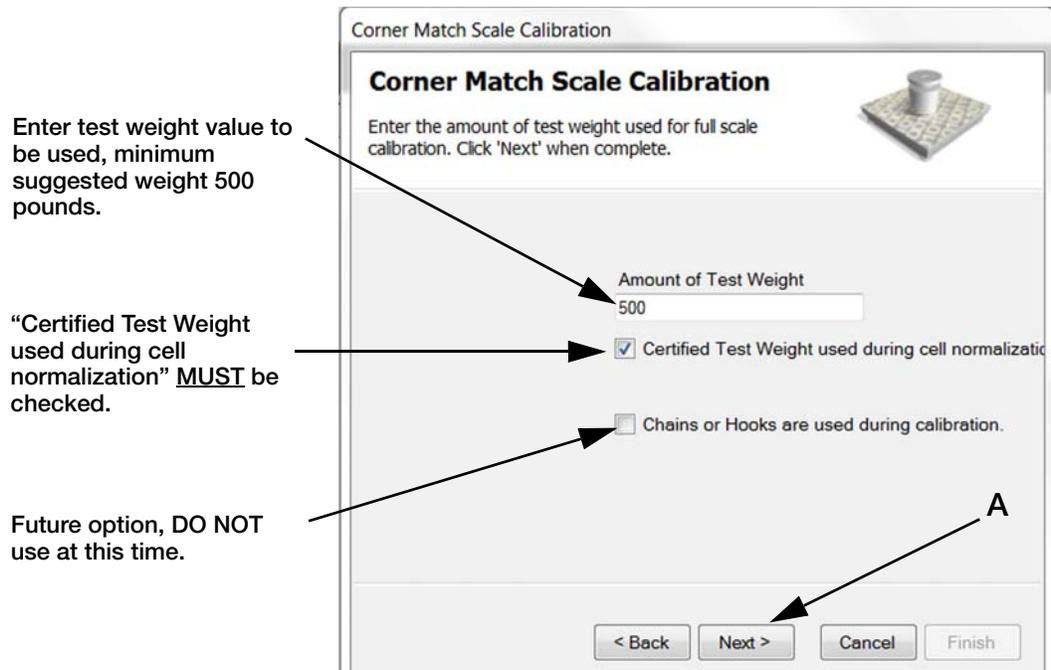

Figure 4-23. Enter Test Weight Value
5. Enter the test weight value to be used and press **Next** (Figure 4-23 A). *Certified Test Weight used during cell normalization* must be checked.